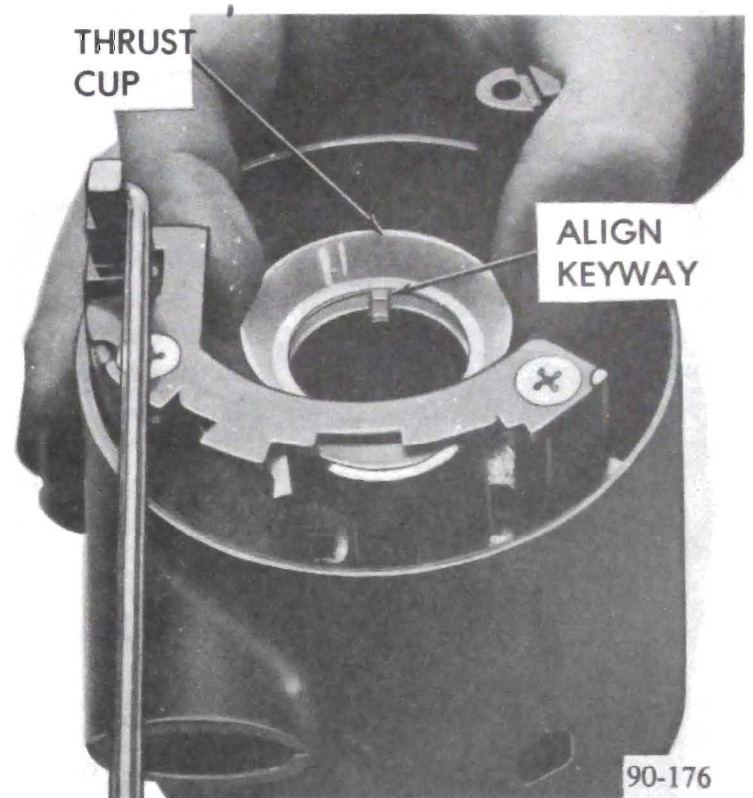

Figure 90-89 Removing or Installing Thrust Cup
16. Remove thrust cup. See Figure 90-89.
6. Install the thrust cup on the bottom hub of the housing. Be sure key of cup aligns with keyway in hub. See Figure 90-89.